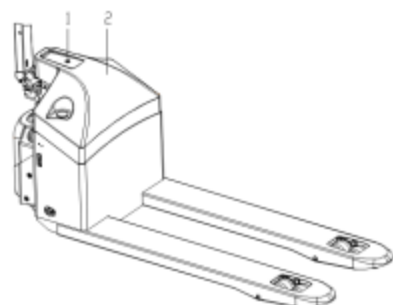

Fig. 6
- (Fig 6) loose screw1, remove cover2 ;